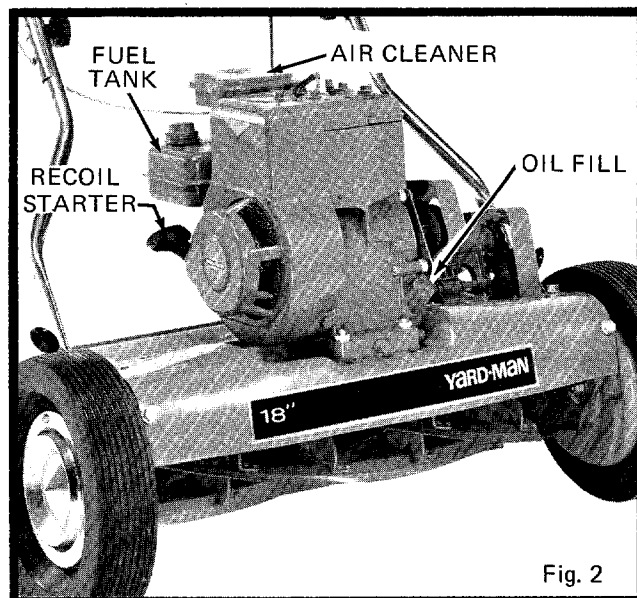

Fig. 2
1. Remove oil fill plug (Fig. 2). Place mower level and fill engine crankcase to top of oil plug with S.A.E. No. 30 oil. Tilt mower to make sure oil flows completely into crankcase. Replace fill plug and tighten.